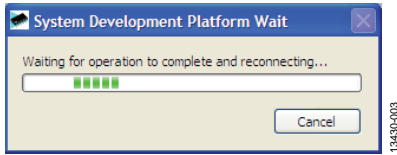

Figure 3. Connection Message
3. Click **Start > All Programs > Analog Devices > AD5629R/AD5669R > AD5629R/AD5669R Evaluation Software**. While the software connects to the evaluation board, the message in Figure 3 displays.